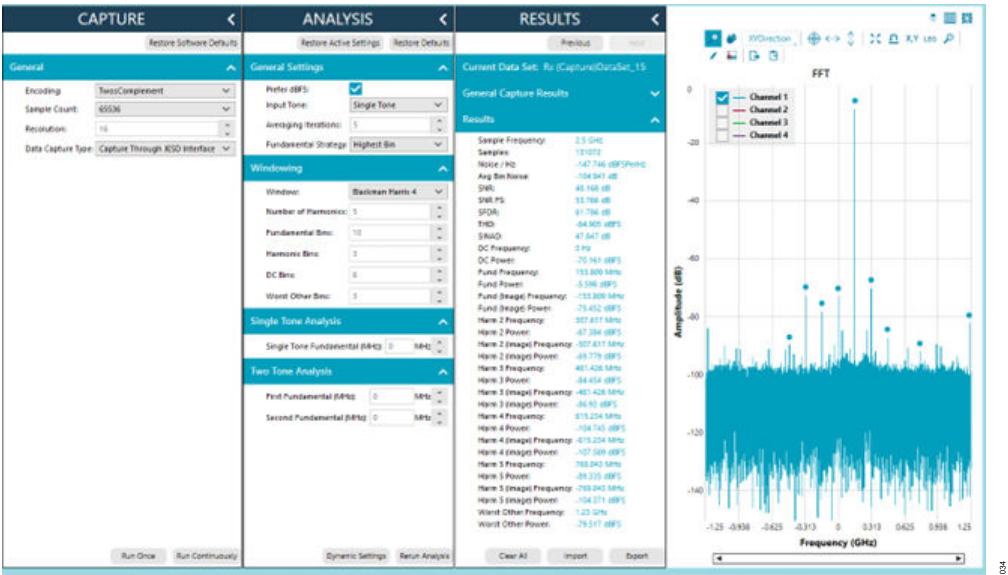

Figure 33. Single Tone FFT at 2.3GHz from ADC\_A0
- An FFT from the captured data displays as shown in Figure 33. With a single tone sinusoid input at 2.65GHz -5dBFS amplitude, and the NCO set to 2.5GHz, the captured tone appears at ~150MHz, and the noise spectral density (NSD) value reads approximately -145dBFS/Hz or better. This value takes into account all the interleaving spurs that are showing up in the FFT and is expected to improve as the AD9084 development team makes improvements to the ADC calibration subroutines. The number of samples to capture for calculating the FFT is specified in the **Sample Count** pull-down menu. Note that higher sample counts result in a proportionally narrower FFT bin width, lower bin noise, and increased FFT frequency resolution.